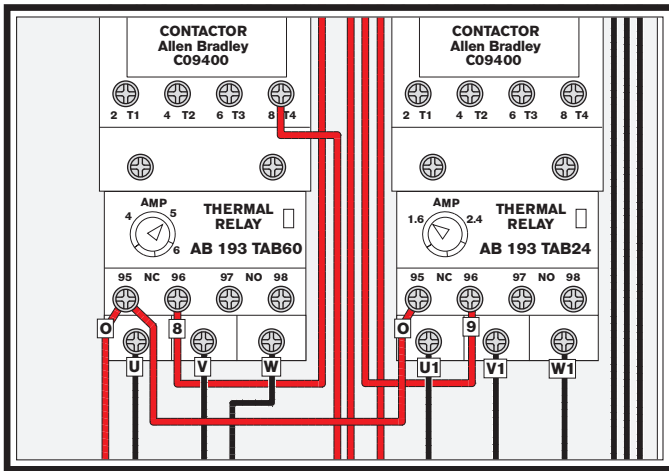

Figure 55. 220V Thermal relays.
- Open the electrical box on the side of the machine. Loosen all of the screws that secure the wires to the thermal relays and the screws that secure the thermal relays to the contactors (**Figure 55**). Pay careful attention to the location of the wires so you can replace them in the same position later.